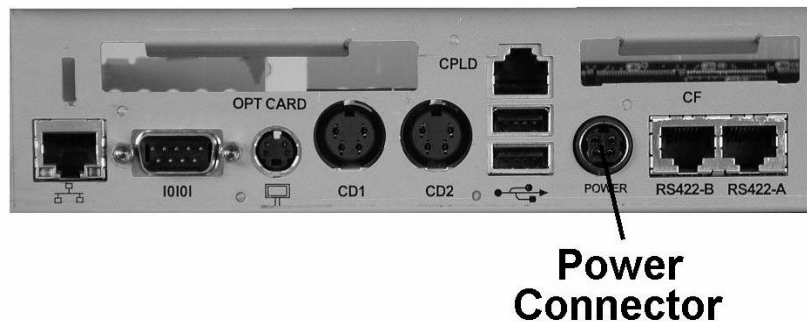
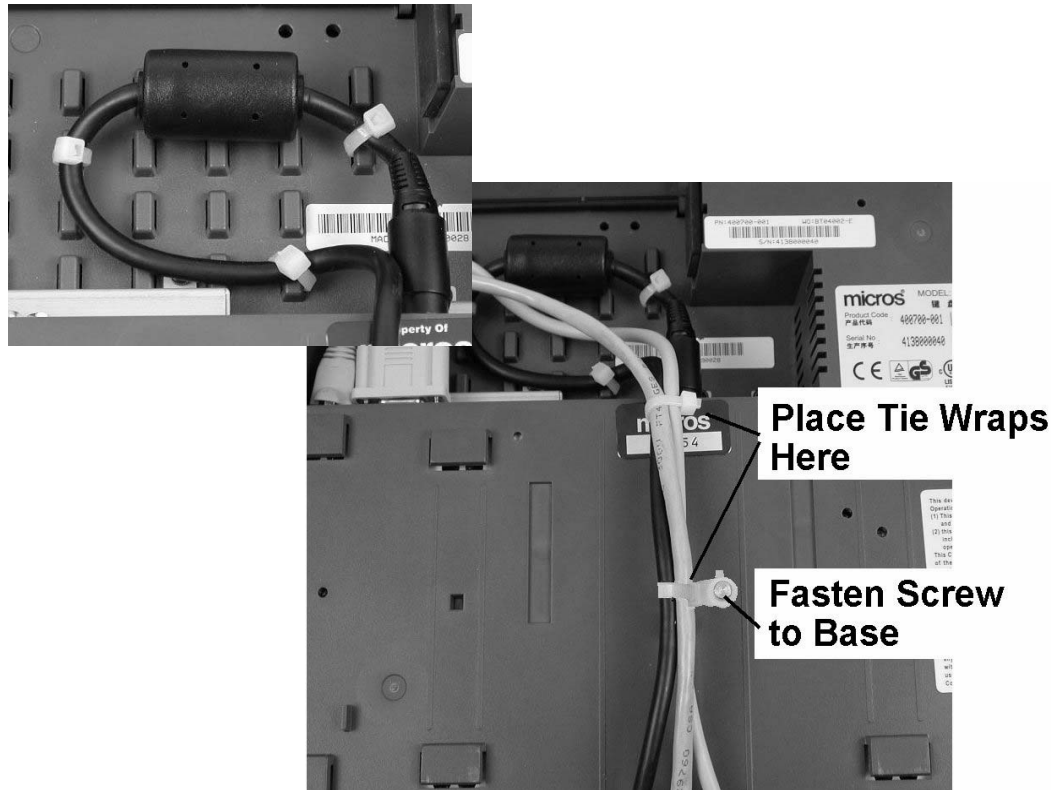

Figure 3-2: Connecting the External Power Supply
Figure 3-3: Cabling the KWS4 for the Adjustable Stand
1. With the AC cable removed from the external power supply, connect the DC output cable to the DIN connector shown in Figure 3-2 below. See Figure 3-3 for more information about installing the power cable.
4. Attach the DC Power cable to the Input Connector. Use tie-wraps to secure the cable and in-line toroid to the cleats as shown on the upper left side of Figure 3-3. This cable can serve as the strength member for the remaining cables.
5. Connect each peripheral cable to the appropriate I/O connector. Bundle all cables together and attach two tie wraps to the bundle as shown on the right side of Figure 3-3. The tie wrap installed near the I/O panel must be positioned as shown to prevent the cable bundle from interfering with the cut-outs in the stand.